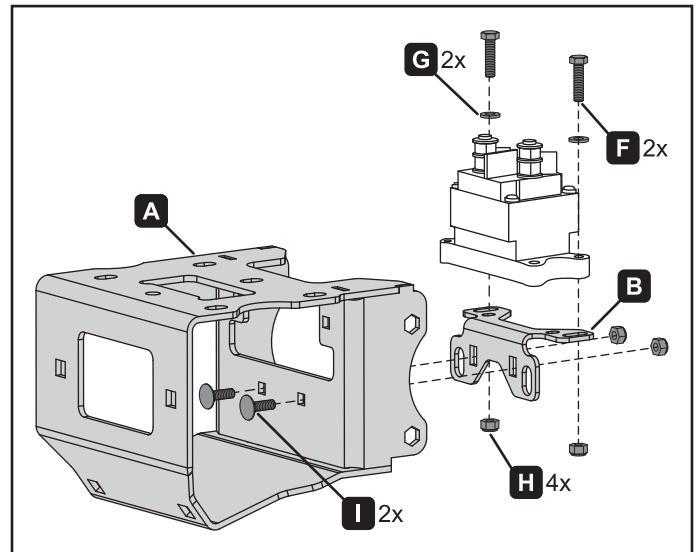

Figure 4. Position 2
- If your machine uses position 2 in the Contactor Mounting Positions Table above, mount and wire the contactor now. See figure 4 on following page.
Contactor Location: Refer to Contactor Mounting Positions Table on page 2 to determine the location your machine requires. Reference figures 4, 6, 9, 10 or 11 based on the information in the table.